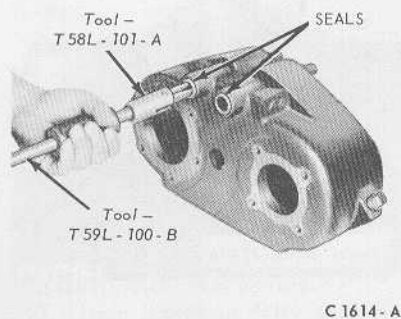

FIG. 16—Removing Shift Rail Seals
1. Remove the shift rail seals as shown in Fig. 16.